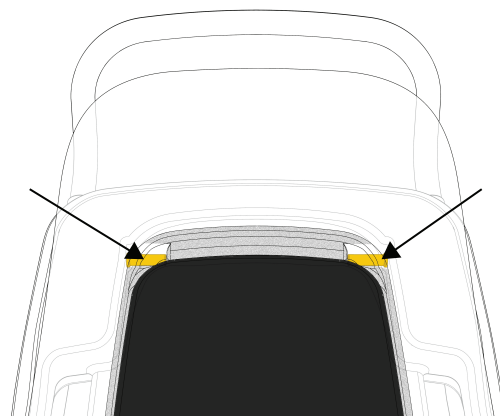

Figure 3 – Retention pins
2. Slide the basket onto the two retention pins (Figure 3).